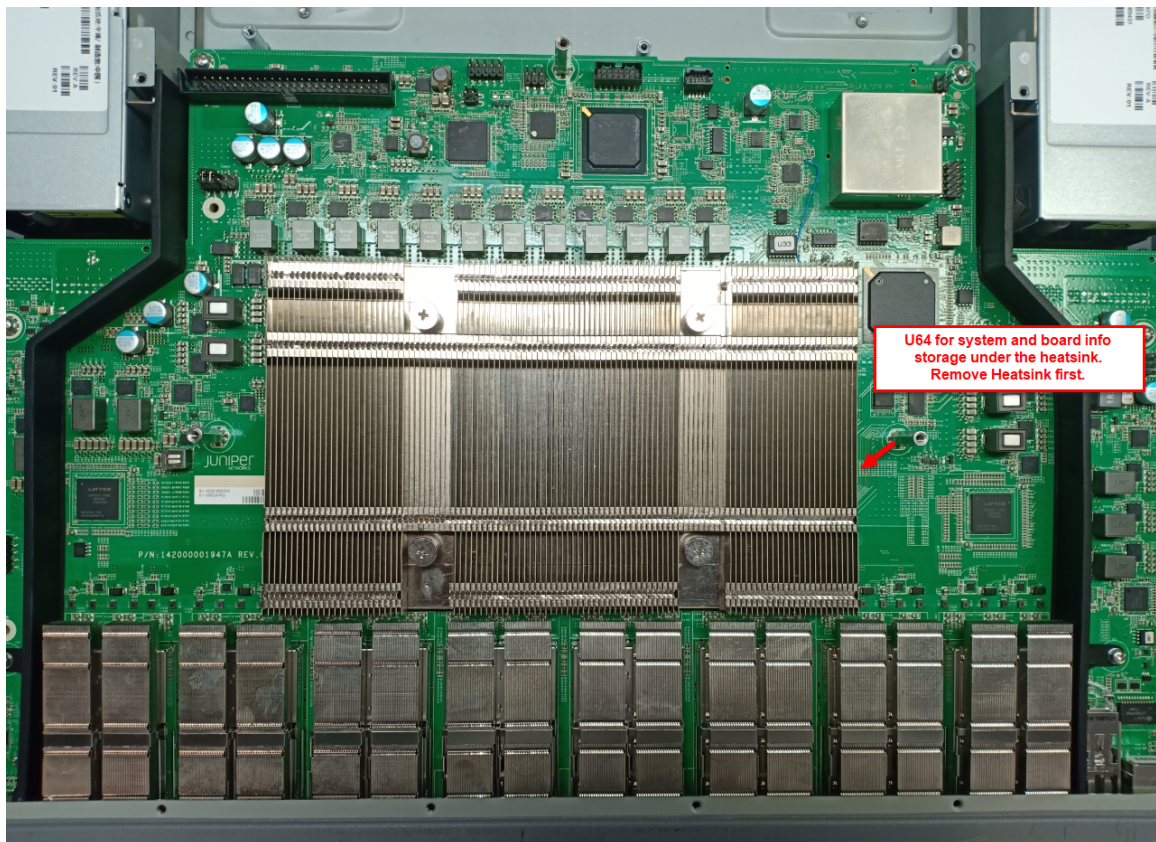

Figure 3-6: Locate NV storage devices on Main board
8. Locate NV storage devices on Main board (Figure 3-6).